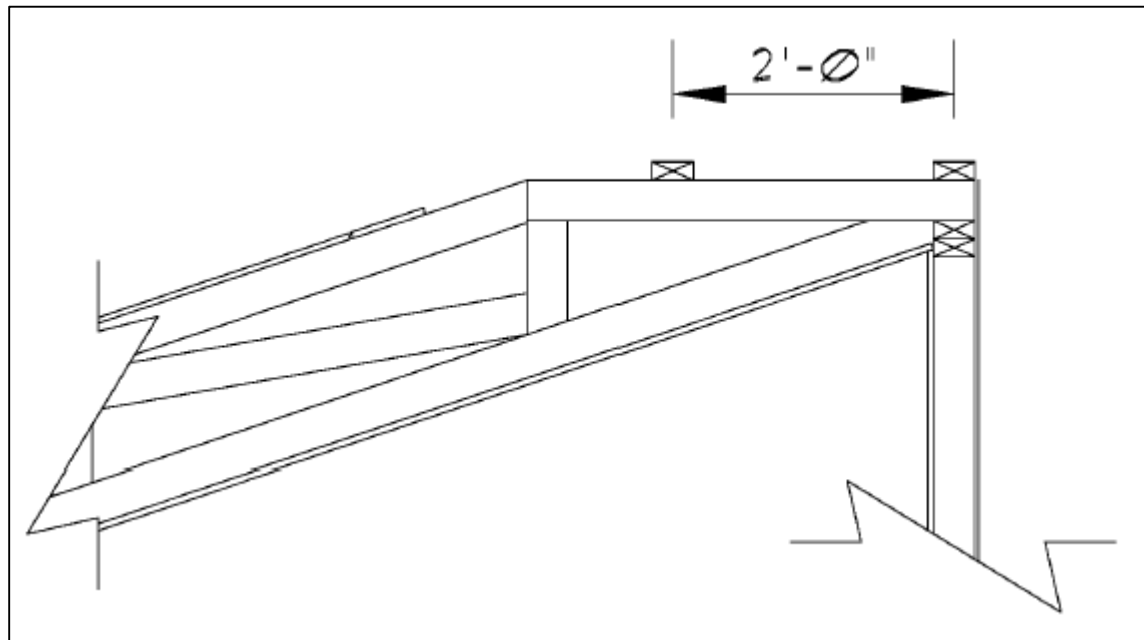

Figure 9: Cap truss detail.
Place the caps on the roof according to the locations provided on the Roof Cap Layout. This layout is included in the appendix of the installation manual. Attach each cap by toe-nailing the bottom chord of the cap with (2)10d common nails to the lateral braced just installed (see Figure 9). Finish installing the cap as indicated on the appropriate diagram on the following pages.